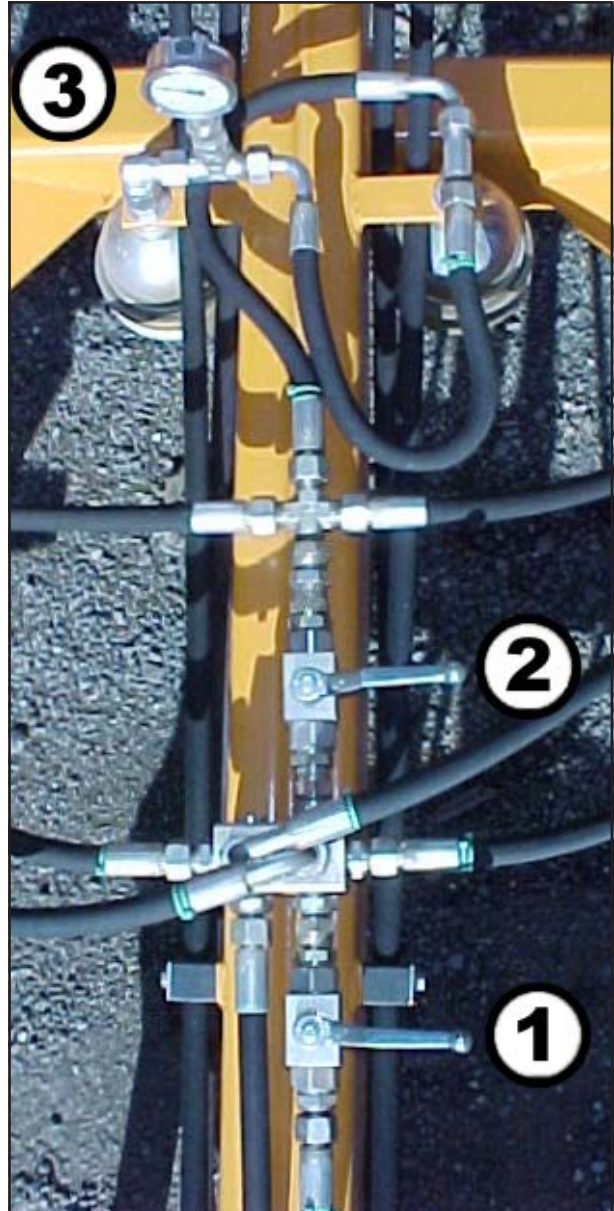

Fig. 5.05: Cushioning Hydraulic System
1. Open the front tap (Fig. 5.05, item 1)
2. Open the tap nearest to the gauge (Fig. 5.05, item 2)
4. Raise the machine so discs are clear of the ground. There should be no pressure showing on the gauge (Fig. 5.05, item 3).
6. When the desired pressure is achieved lock the handle near the gauge (2). This will isolate the cushioning circuit. The disc pitch part of the ram can now be used independantly of the cushion circuit.
7. Once the desired amount of shims are set in place retract the cylinder and lock the circuit by closing the front tap (1). The gauge will fluctuate in operation, this is normal. If the disc frames “give up” too easily then the cushion pressure will need to be increased.